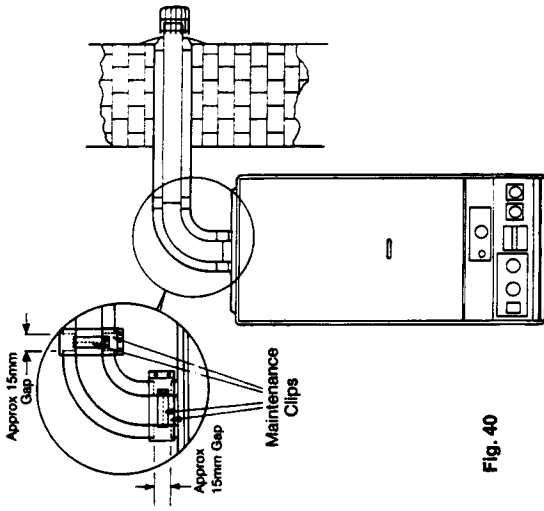

Fig. 40
8.19.5 Remove screws on large maintenance clips (fig 40) and remove clips, loosen screws on the small clips and remove flue elbow.